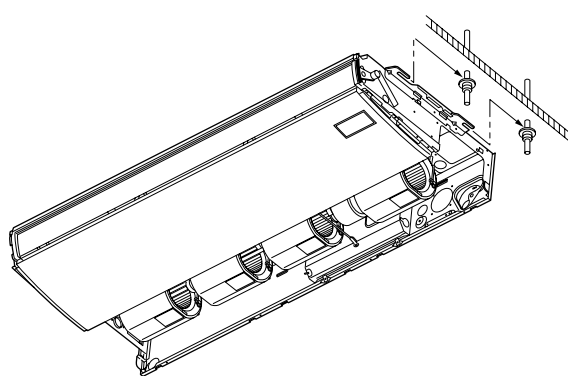

Fig. 3-122
- b) Lift the indoor unit, and place it on the washers through the notches, in order to fix it in place. (Fig. 3-122)